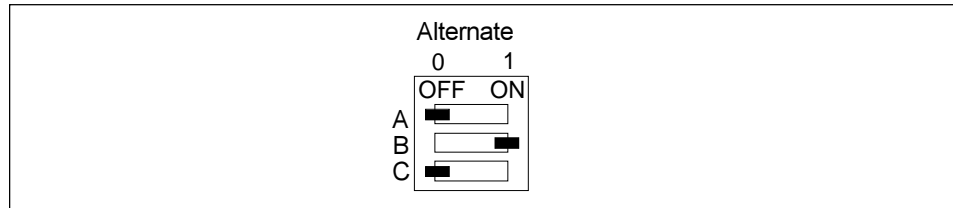

Figure 4-5. Alternate switch S1 selection.
- Alternate (refer to figure 4-5 page 21 and tables 4-5 to 4-7 page 21)
- Alternate (refer to figure 4-5 and table 4-8 page 22)